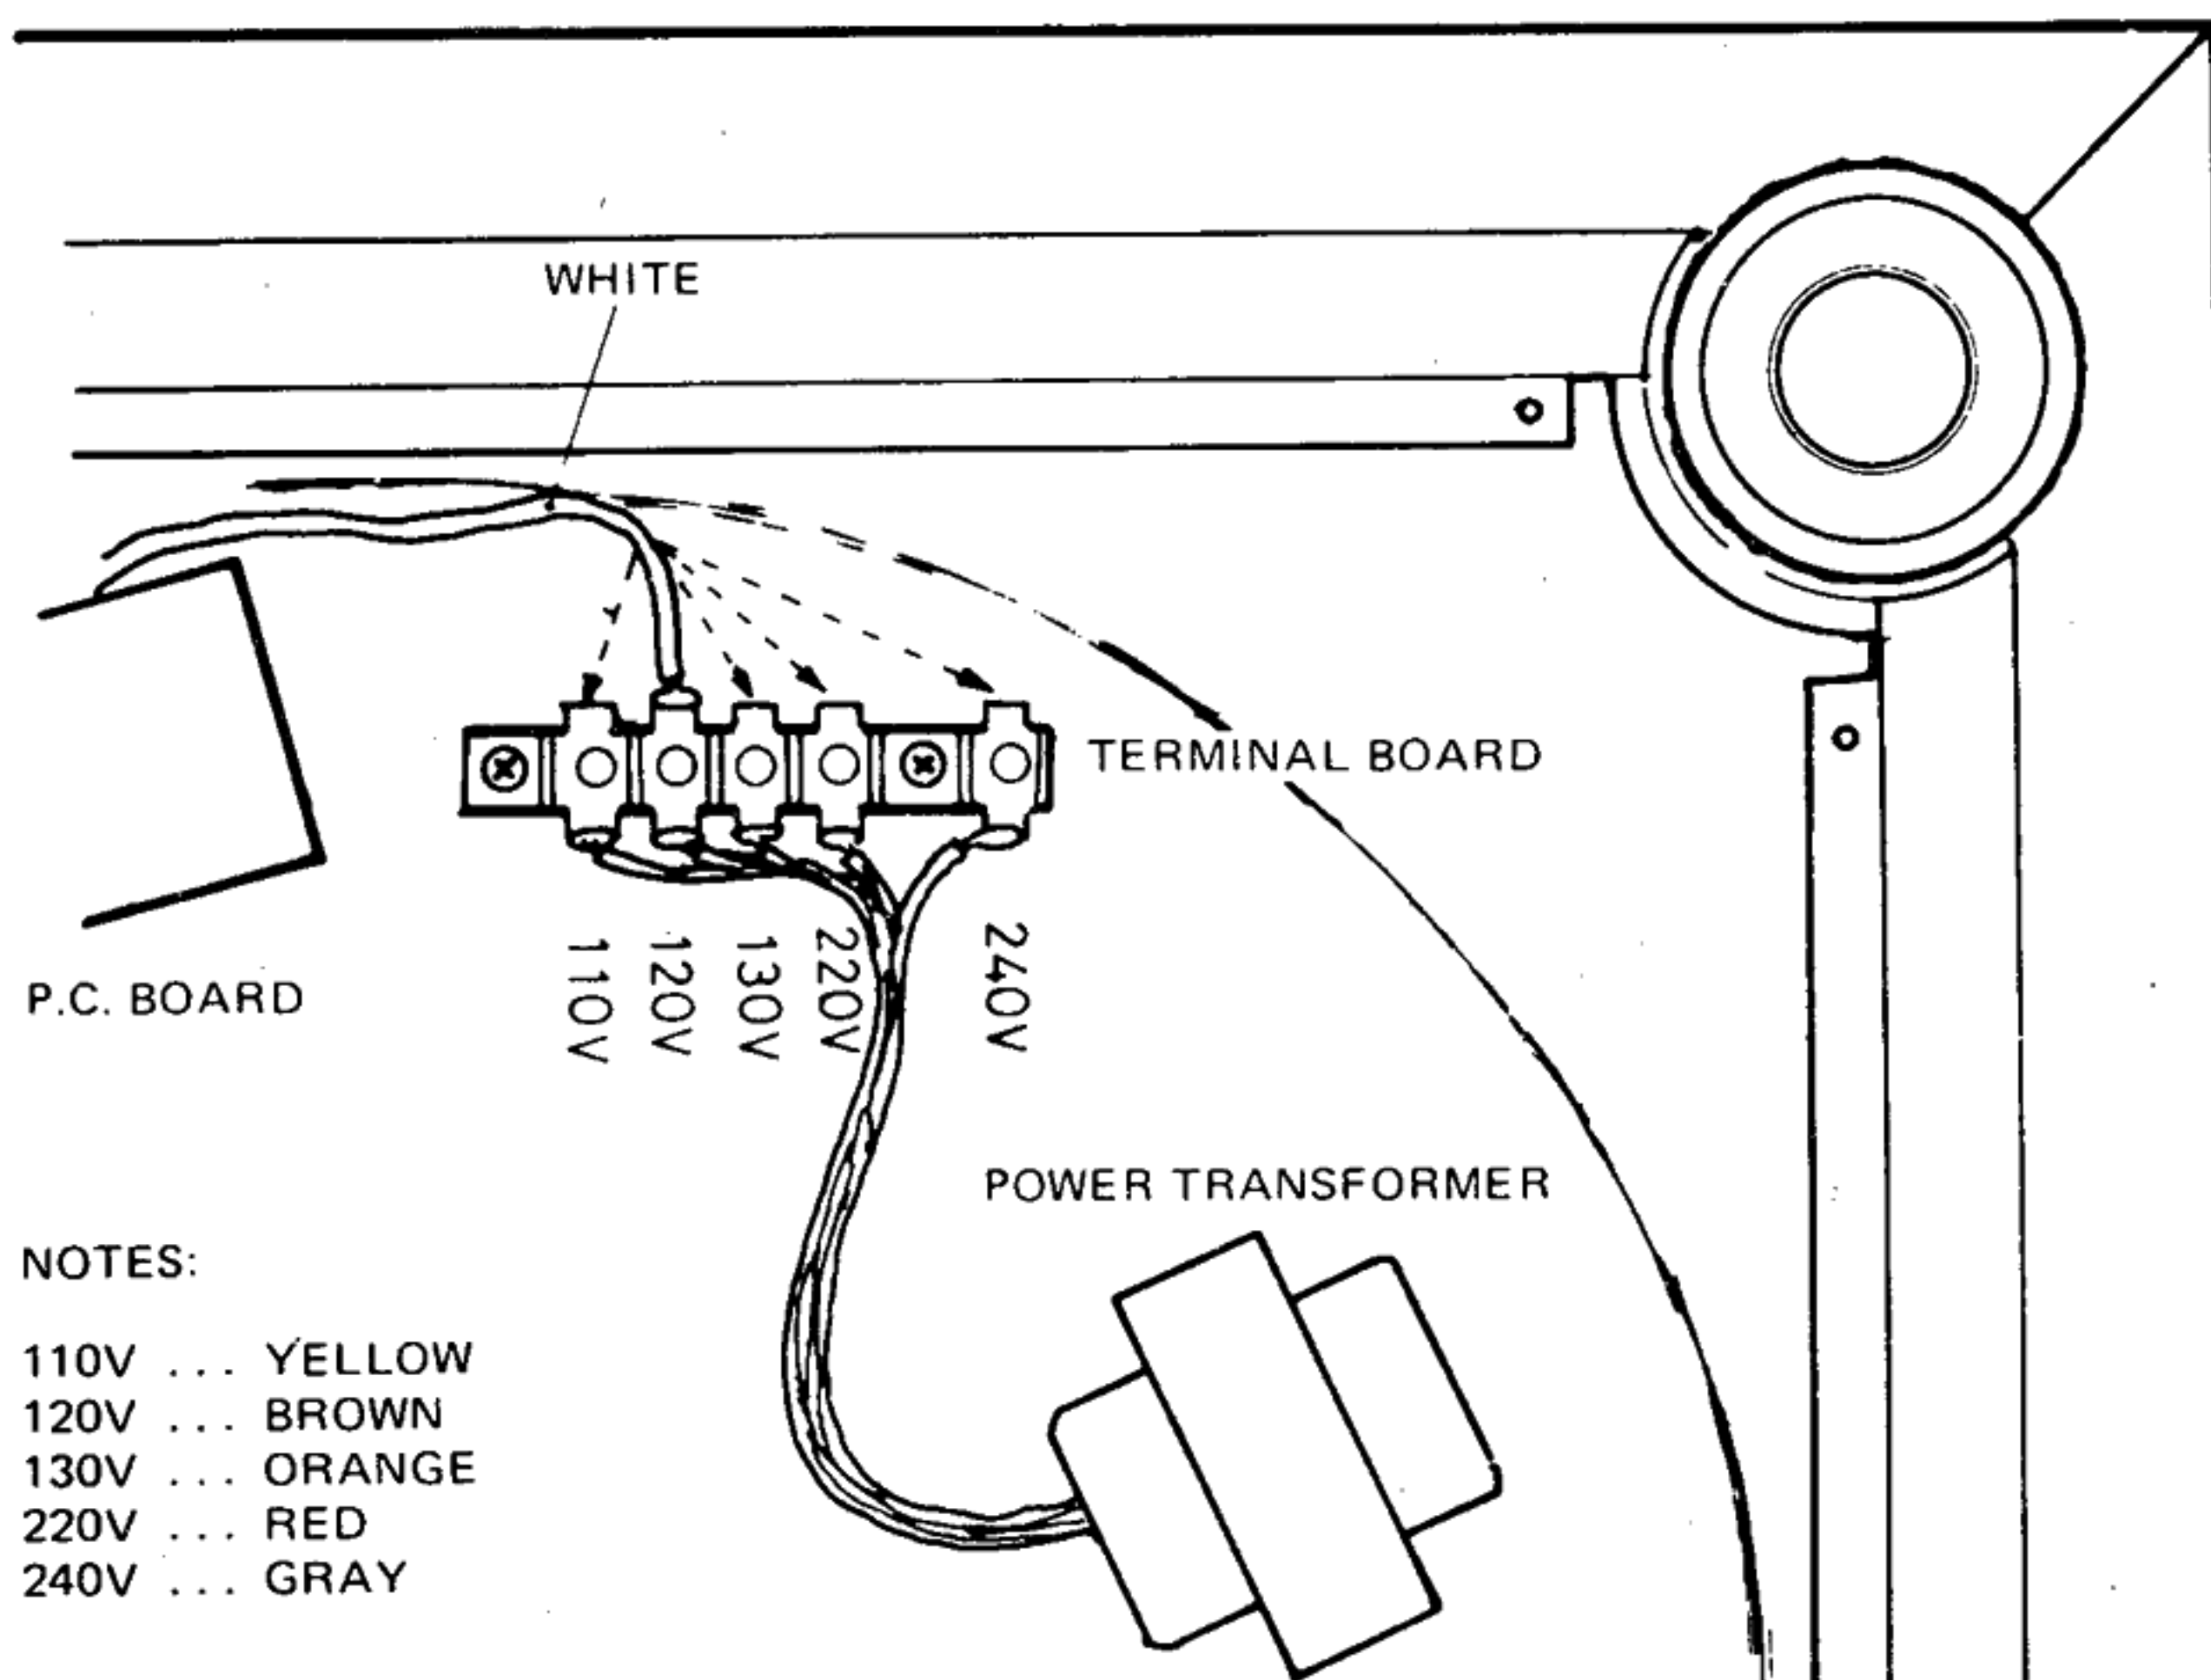

Fig. 4
1. Remove the bottom cover, now you can see the terminal board (Fig. 4).